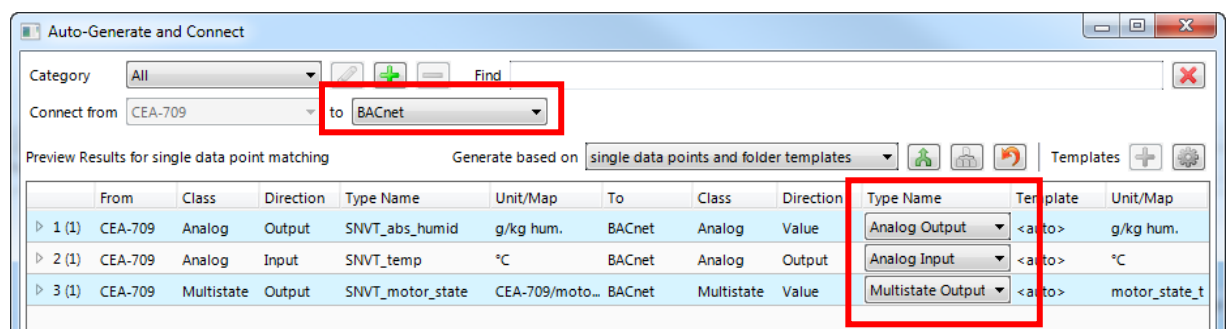

Figure 51: Auto-generate and connect preview.
5. The auto-generate preview dialog opens as shown in Figure 51. Choose the target technology. The preview results show a list for each source type found how it will be created as a target type. The **Type Name** column provides a drop-down to modify the result. This choice is remembered and will be applied the next time again. You may click the **Restore defaults** button  to revert all custom settings.